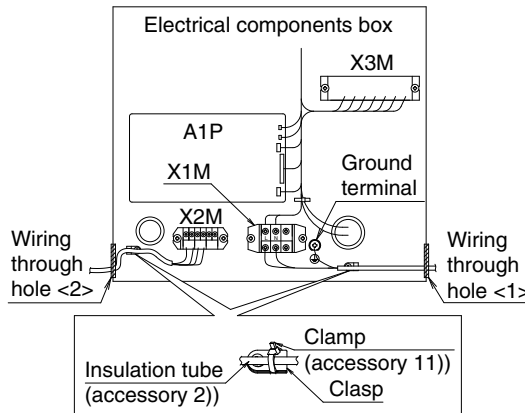

Fig. 17
■ **Power supply wire, Ground wire (Refer to Fig. 17)**
■ **Transmission wire, Remote controller wire (Refer to Fig. 17)**